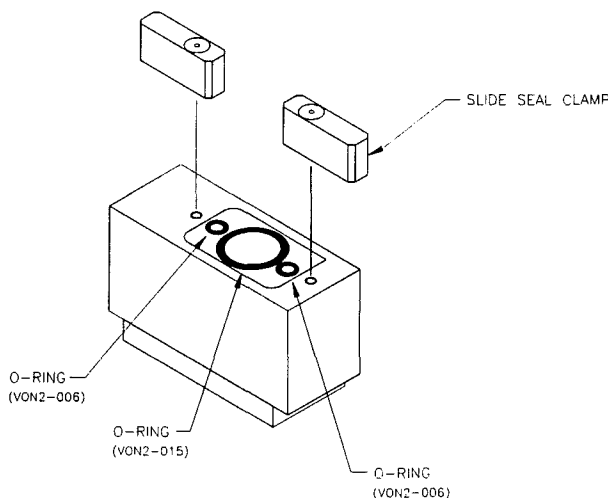

Figure 3-3. O-Rings on Socket Block Assembly
5. Verify that three O-rings are on top of the socket block assembly (see figure 3-3). If necessary, stand on a stool or small ladder so that you can examine the top of the socket block. Reinsert any missing O-rings.